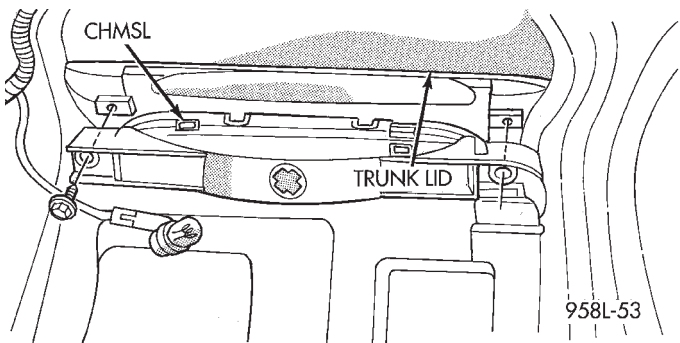

Fig. 4 Center High Mounted Stop Lamp
- (1) Release decklid latch and open decklid.
- (2) Remove socket from CHMSL.
- (3) Remove nuts attaching CHMSL to decklid (Fig. 4).
- (4) Remove CHMSL from decklid.